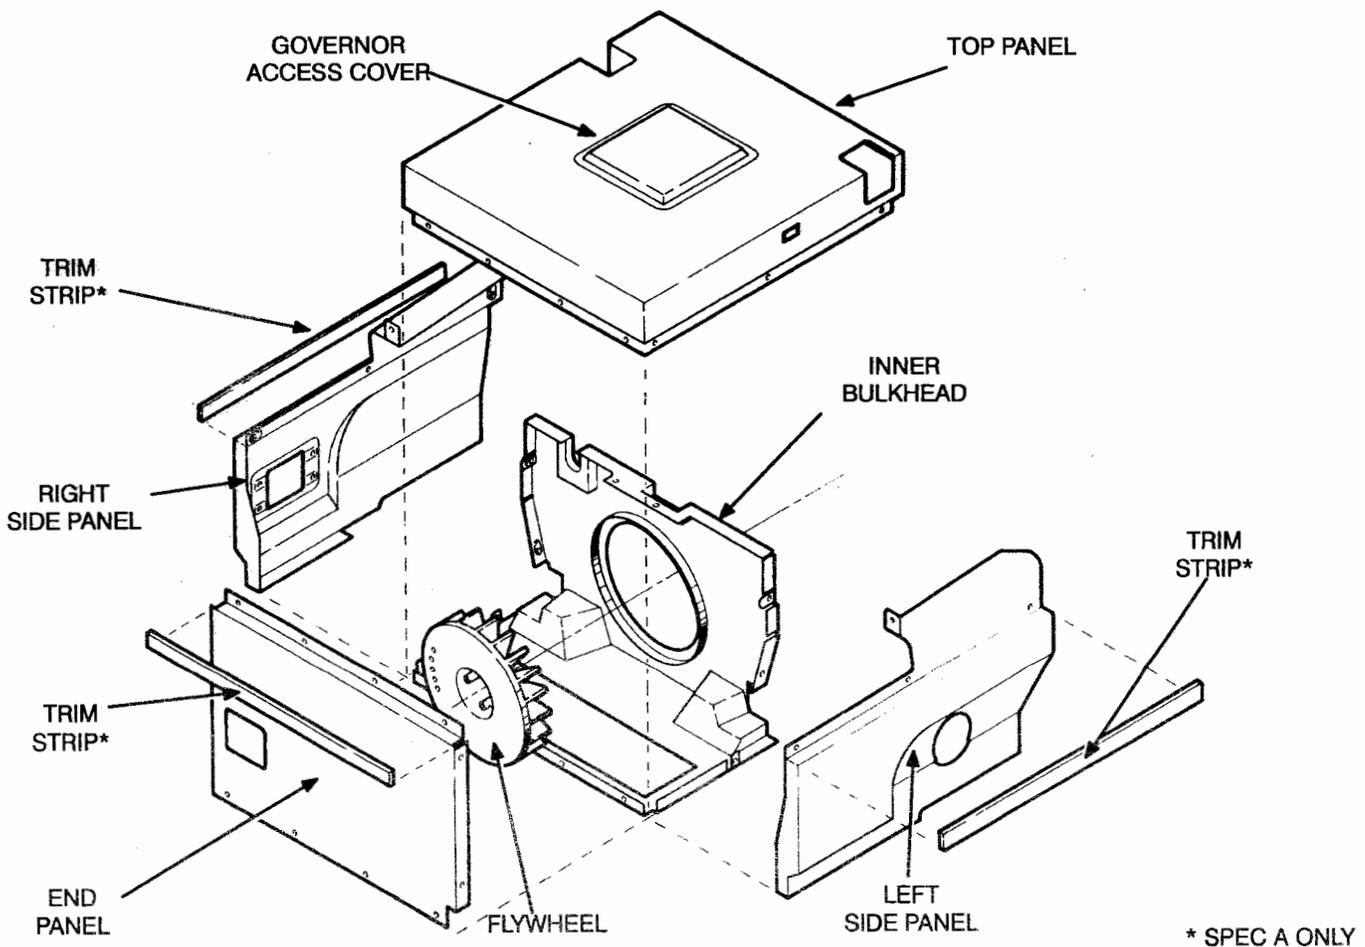

FIGURE 6-3. COOLING SYSTEM
2. Pry off the trim strips (if any) around the three sides of the top panel and remove the exposed Torx screws and the two screws on top. See Figure 6-3. Through the spark plug access opening, unhook the left-side (oil filter side) spark plug lead from the top panel and remove the panel.